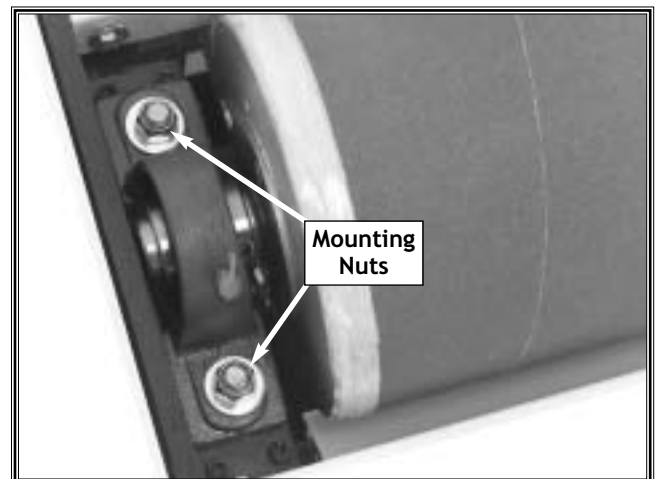

Figure 24. Front bearing block and nuts.
- Loosen the bearing-block mounting nuts on one end of the front drum. See **Figure 24**.